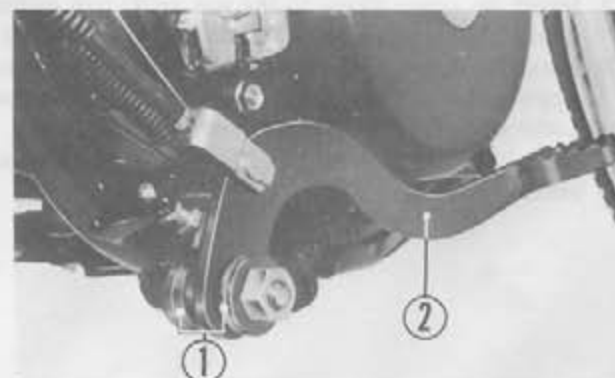

Fig. 5-26 ① Pedal shaft seal ② Rear brake pedal
② Rear brake cable
6. To assemble, reverse the disassembly procedures. Apply a coat of grease to the brake pedal attaching surface and install the pedal shaft seals securely as shown in Fig. 5-26.